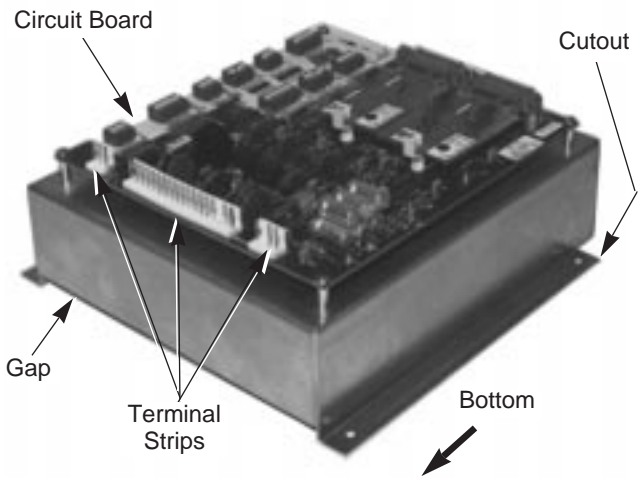

Figure 4.
5. Remove the circuit board and position on top of shield box as shown in figure 4. The box must be positioned so that the gap and terminal strips are towards the bottom and the cutouts are towards the top as shown in figure 4. Use the existing mounting screws removed in step 4 to secure circuit board to box.